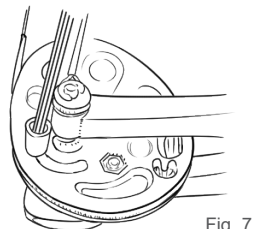

Fig. 7
6. Once you've adjusted the draw stop screw to the letter position that matches the module screw position, tighten the draw stop screw. (Fig. 7)